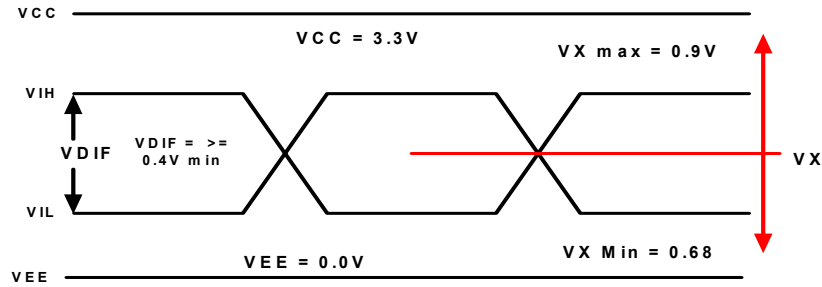

Figure 2. HSTL Differential Input Waveform Definitions
9. V_X(AC) is the crosspoint of the differential HSTL input signal. Normal AC operation is obtained when the crosspoint is within the V_X(AC) range and the input swing lies within the V_{DIF}(AC) specification. Violation of V_X(AC) or V_{DIF}(AC) impacts the device propagation delay, device and part-to-part skew. Refer to Figure 2.